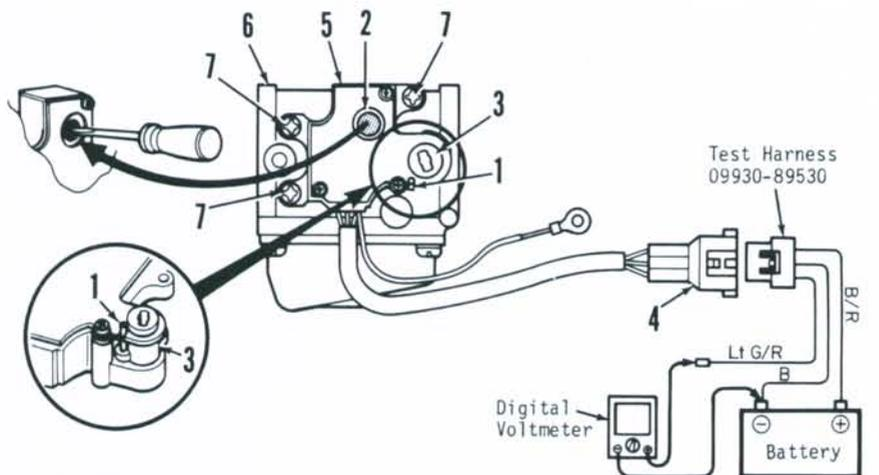

Fig. SZ11-48—Refer to text for throttle valve sensor testing and installation procedure.
THROTTLE VALVE SENSOR. To test throttle valve sensor (5—Fig. SZ11-48), remove alignment pin attached to cover over throttle valve sensor and insert alignment pin (1) into hole in sensor and sensor cam (3). Align slot in cam (3) with throttle shaft. Disconnect throttle valve sensor connector (4). Connect test harness 09930-89530 or suitable jumper wires to a battery as shown in Fig. SZ11-48. Battery voltage must be nine volts or more. Connect positive (+) lead of a suitable digital voltmeter to test harness light green wire with red tracer and voltmeter negative (-) lead to battery
digital voltmeter as shown in Fig. SZ11-48. Make sure battery voltage is nine volts or more. Sensor output voltage at closed throttle should be 0.45-0.55 volt. If not, move position of sensor on carburetor to obtain specified voltage and securely tighten screws (7). Recheck voltage after tightening screws (7) and if necessary, remove cap (2) and turn adjustment screw to obtain 0.45-0.55 volt. Be sure to reinstall cap (2). After obtaining the correct voltage at closed throttle, remove alignment pin and check sensor output voltage at wide-open throttle. Voltage should be 2.7 volts or higher. Do not attempt to adjust wide-open throttle voltage.